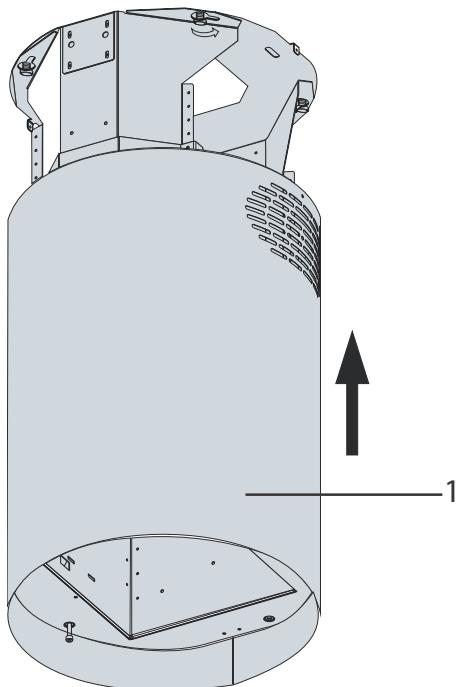

Fig. 16
5. ➔ Slide the inner flue onto the motor block and fix it to the motor block with the screws provided with the product (Fig. 16).